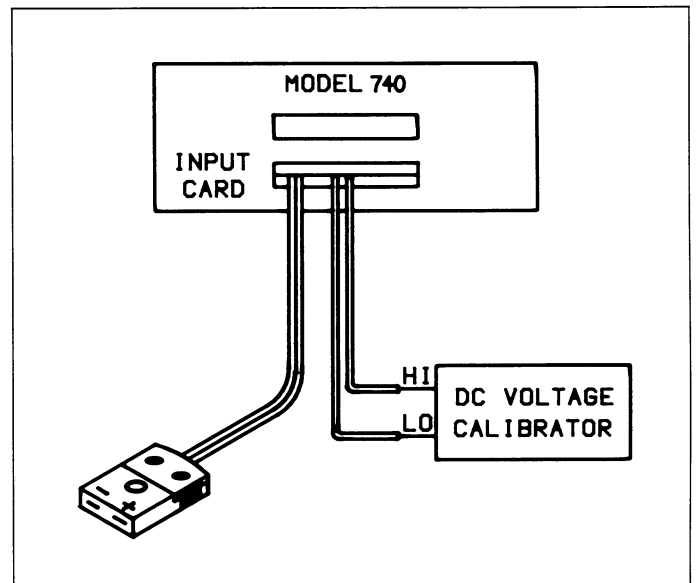

Figure 6-3. A/D Converter—Gain Calibration
- Disconnect the short and connect the DC calibrator to the two copper wires as shown in Figure 6-3. Be sure to observe the proper polarity.
6. Disconnect the short and connect the DC calibrator to the two copper wires as shown in Figure 6-3. Be sure to observe the proper polarity.